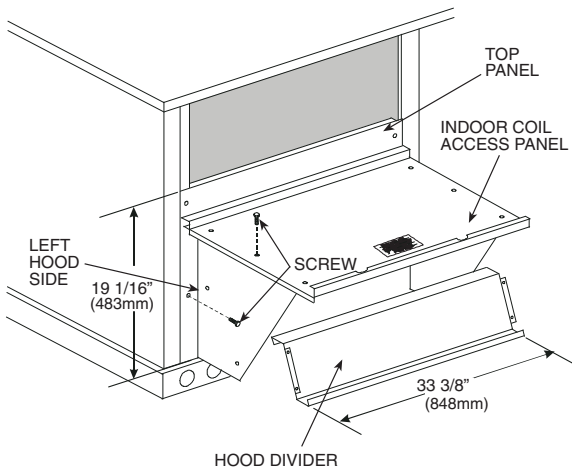
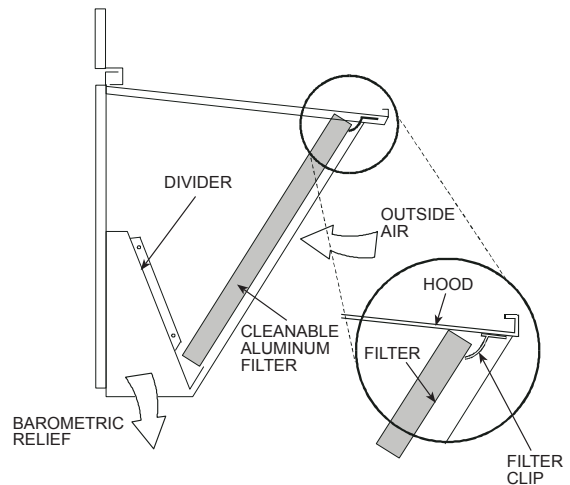

Fig. 13 — Economizer Hood Construction
Fig. 14 — Economizer Filter Installation
2. Swing out indoor coil access panel and insert the hood sides under the panel (hood top). Use the screws provided to attach the hood sides to the hood top. Use screws provided to attach the hood sides to the unit. See Fig. 13.
4. Insert the hood divider between the hood sides. See Fig. 13 and Fig. 14. Secure hood divider with 2 screws on each hood side. The hood divider is also used as the bottom filter rack for the aluminum filter.
5. Open the filter clips which are located underneath the hood top. Insert the aluminum filter into the bottom filter rack (hood divider). Push the filter into position past the open filter clips. Close the filter clips to lock the filter into place. See Fig. 14.